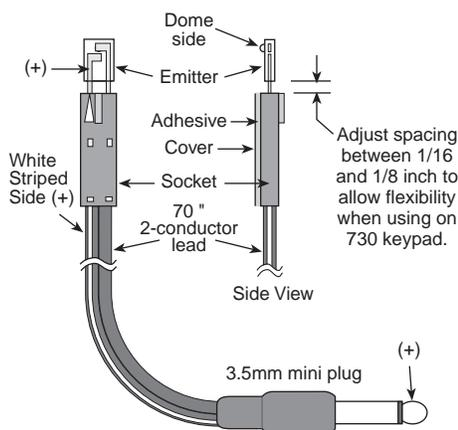

Fig. 3 The PEA1 Programming Emitter Assembly (included with PMS12)
A: You will need (1) 780P or 291P IR Receiver for every remote room (unless you program the Pioneer GUI commands into a learning device as shown in Fig. 3). The 780P is a single gang "J" box model while the 291P is a stand alone, shelf-type unit. Regardless of the number of "P" version IR receivers installed, you will only need (1) PMS12 in a single zone system. *Please remember that you will not need to order a 283SH Emitter! One is included with the PMS12.* Additional 283SH Emitters are available, however, for replacement purposes.
A: Yes. Current shipments of the PMS12 now include a device called the Programming Emitter Assembly (Model PEA1, Fig. 3). This device permits the Pioneer codes to be memorized after they have been down-converted to the 40 KHz carrier frequency (it plugs into the 40 KHz OUTPUT jack on the PMS12). *Pioneer codes cannot be memorized at 1.125 MHz!*